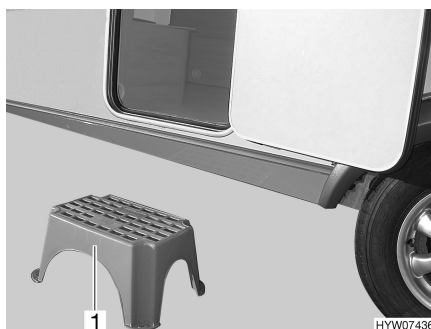

Fig. 9 Entrance step (free-standing)
- Place the entrance step (Fig. 9,1) in front of the entrance to the caravan.